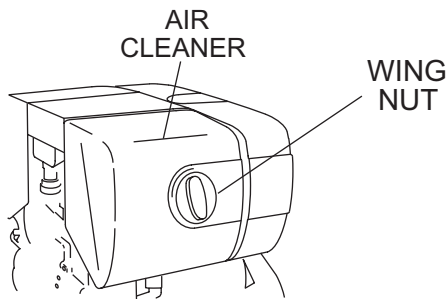

Figure 10. Air Cleaner
- Loosen the wing nut (Figure 10), remove the air cleaner cover.